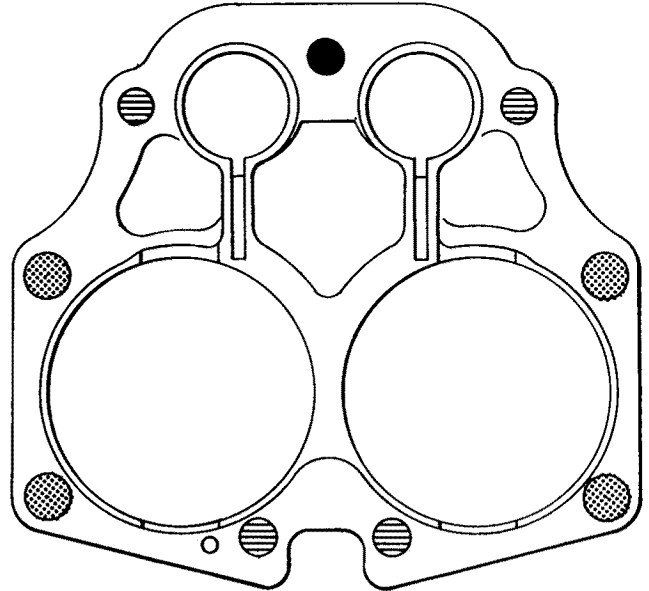

Fig. C43 850 cylinder base securing torque.
- 14 Tighten the cylinder base nuts in sequence. Tighten the $\frac{3}{8}$ in. nuts to a torque setting of 25 lbs./ft. (3.456 Kg/m) and $\frac{5}{16}$ in. nuts to 20 lbs./ft. (2.765 Kg/m). See Fig. C43 for 850 torque settings.